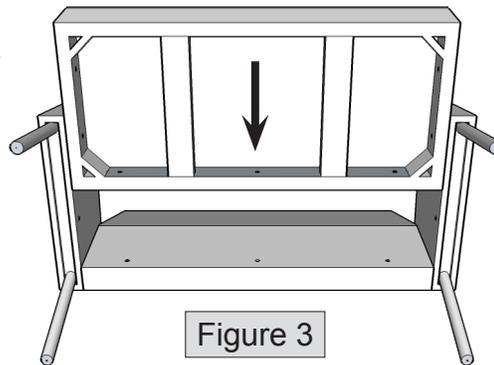

Figure 3
6. Lay assembly on its back on a soft, clean surface and slide seat cushion into place, as shown in figure 3.
6. Lay assembly on its back on a soft, clean surface and slide seat cushion into place, as shown in fig 3.